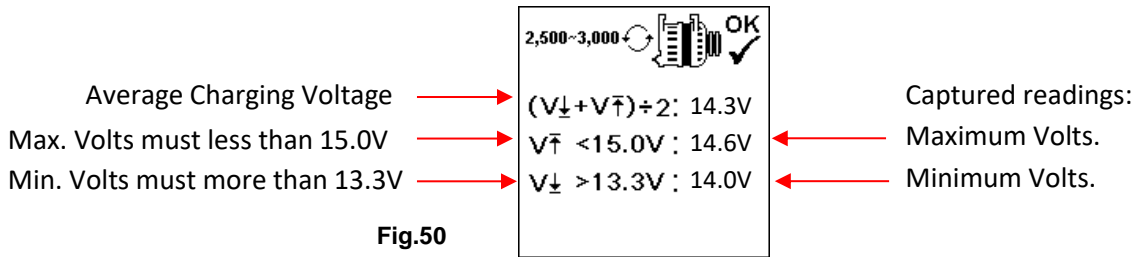

Fig.50
5. While still holding around 2,500 ~ 3,000 RPM, the timer will start to countdown from 10s to 0s. As soon as it reaches 0s, the results will automatically display as example shown below (Fig.50).
Continue from the previous test (either Fig. 50, 51 or 52); the Analyser will automatically proceed to Load test at 1,500 to 2,000 rpm. The display will show as below (Fig.53).